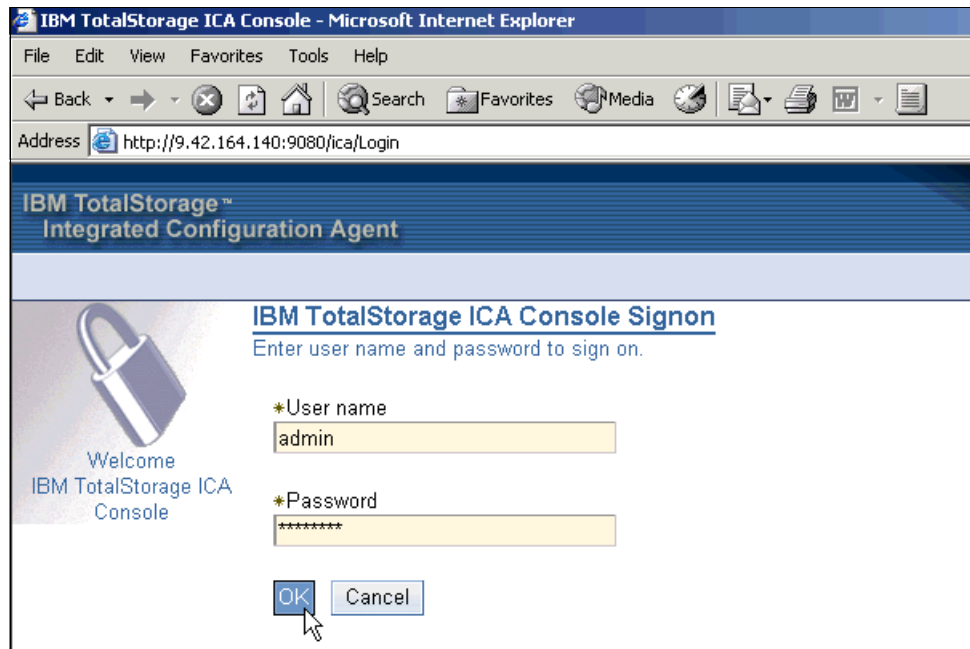

Figure 6-7 GUI signon page
2. On the Signon page (Figure 6-7), type the user ID superuser and the default password of password. Click **OK**.
2. On the Signon page (Figure 6-7), type the user ID superuser and the password you set in the previous section. Click **OK**.